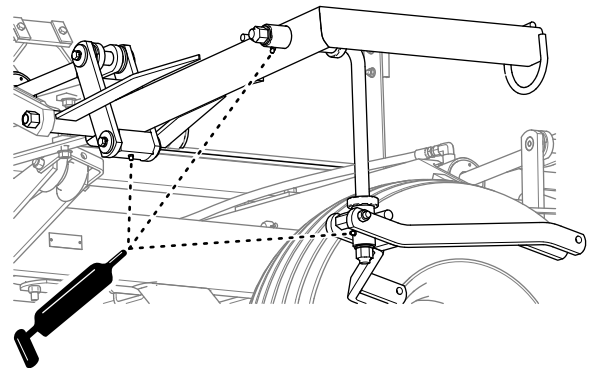

**Figure 15**
- Align the holes in the drawbar with the holes on the pivot housing of the lift bail (Figure 15).
- Assemble the drawbar to the lift bail (Figure 15) with a cap screw (1/2 x 4 inches), and locknut (1/2 inch)